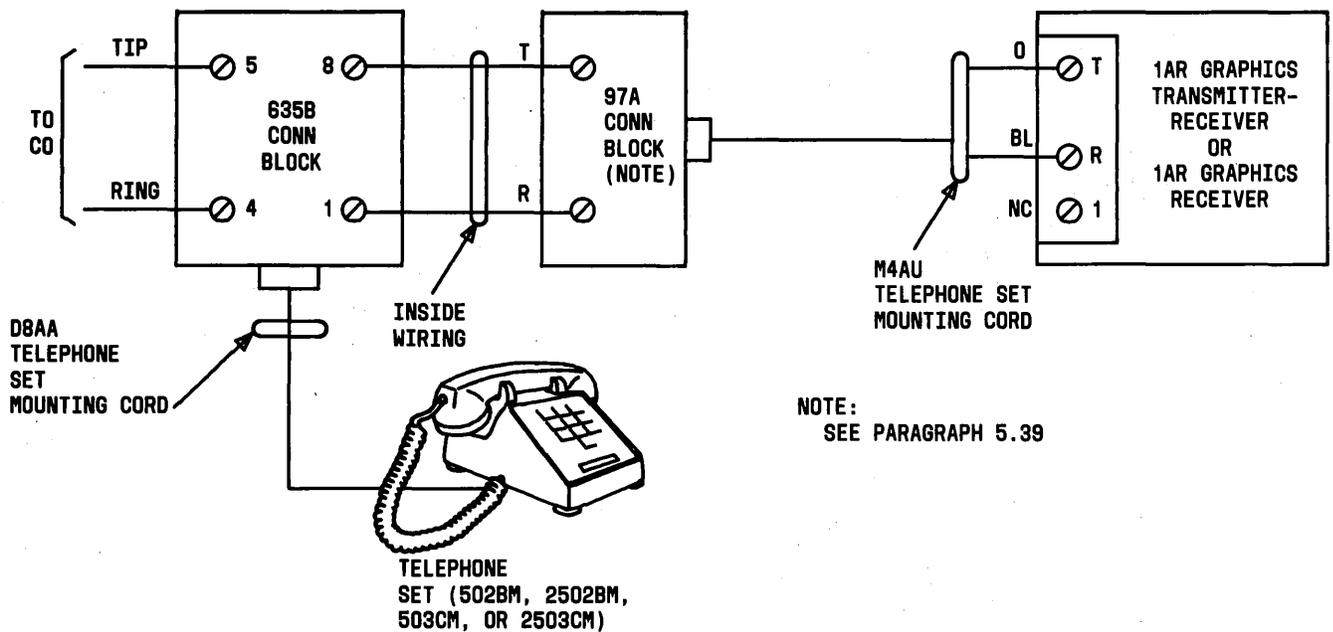
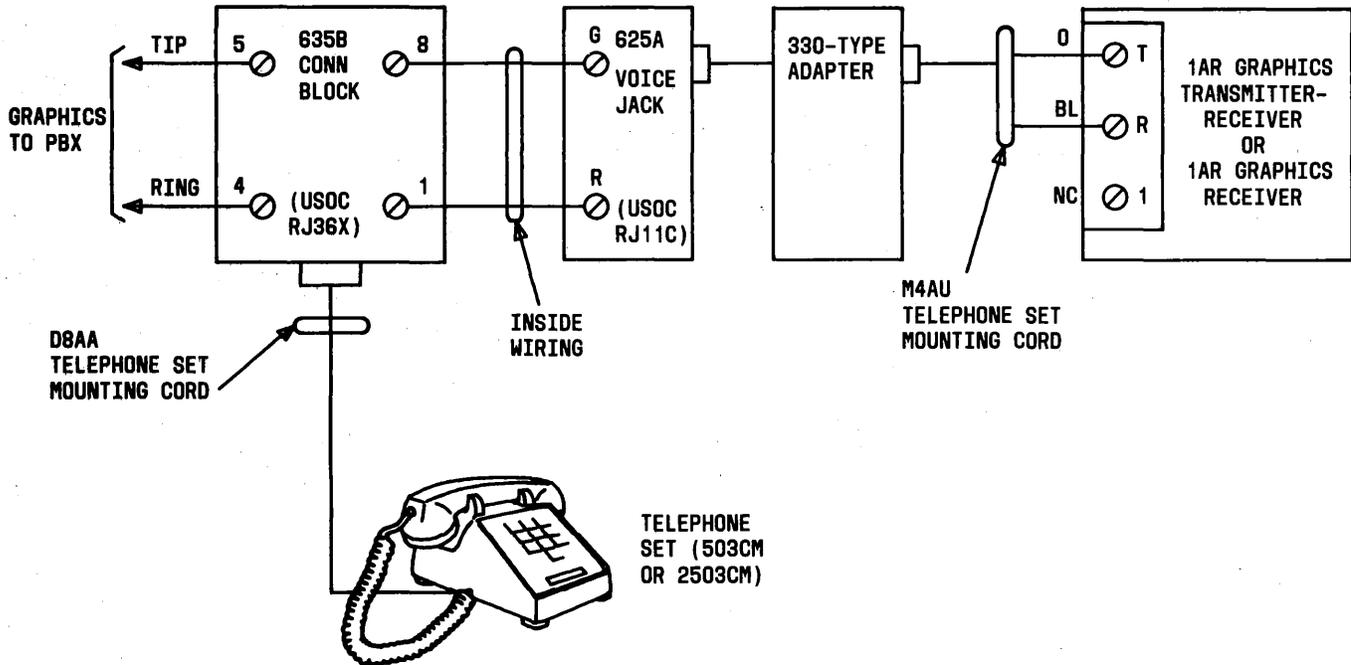

Fig. 36—Switched Network Graphics Telephone Set Connections
Fig. 37—Switched Network Graphics Telephone Set Connections Behind a PBX
5.39 Place telephone set with exclusion key on middle shelf of cabinet (Fig. 1) or other convenient location. Connect telephone set mounting cord to 635B connecting block (42A on private line). On the switched network, also connect a 97A connecting block as shown in Fig. 36. Select the **appropriate** 97A connecting block. The choice is determined by the central office loop loss. (See Section 590-101-103.) Note that the character "X" in 97AX does not designate "X" dB of attenuation, but rather (10-X) dB of attenuation. On the switched network behind a PBX, omit the 97A connecting block and connect a 625A voice jack and 330-type adapter as shown in Fig. 37.